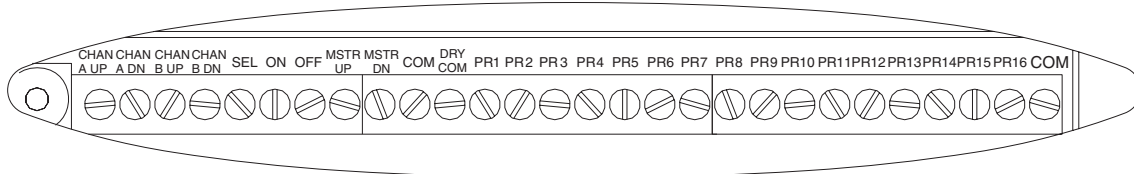

**Figure 6 - Momentary Closure Wiring Detail**
5. See *Figure 6* for connection of momentary dry closures to the SQCS. See *Figure 7* for other functions that are available from remote input terminals.